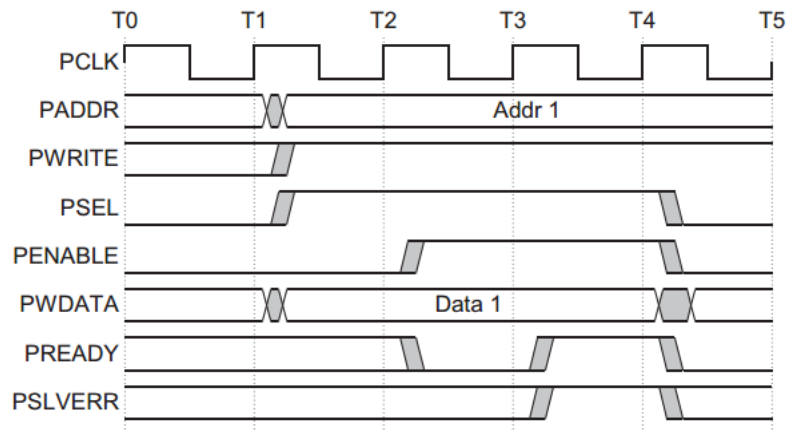

Figure 2-6 Example failing write transfer
Figure 2-6 shows an example of a failing write transfer that completes with an error.
- Error response in write transfer timing chart – Figure 2-6